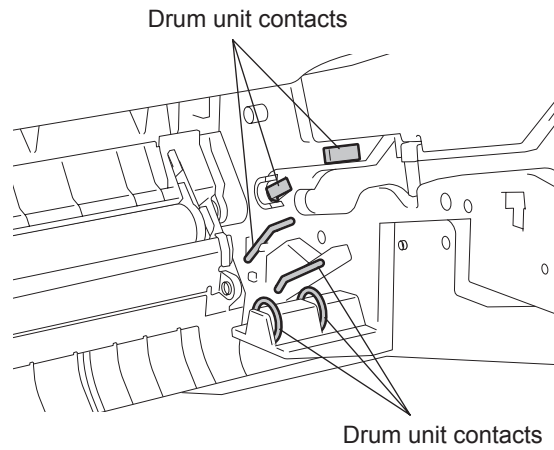

Fig. 10-13
- 9) Drum unit contacts (P.10-10 "Fig. 10-13")